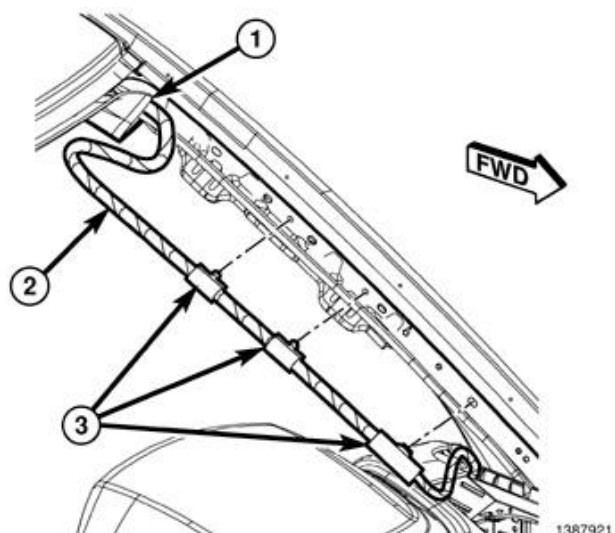

Figure 49 – Headliner Harness
20. As necessary, release the headliner wiring harness clips (3) from the A-pillar to allow enough wiring harness slack for lowering the headliner (Figure 49).
39. Reattach any headliner wiring harness clips (3) removed from the A-pillar to allow slack while lowering headliner (Figure 49).